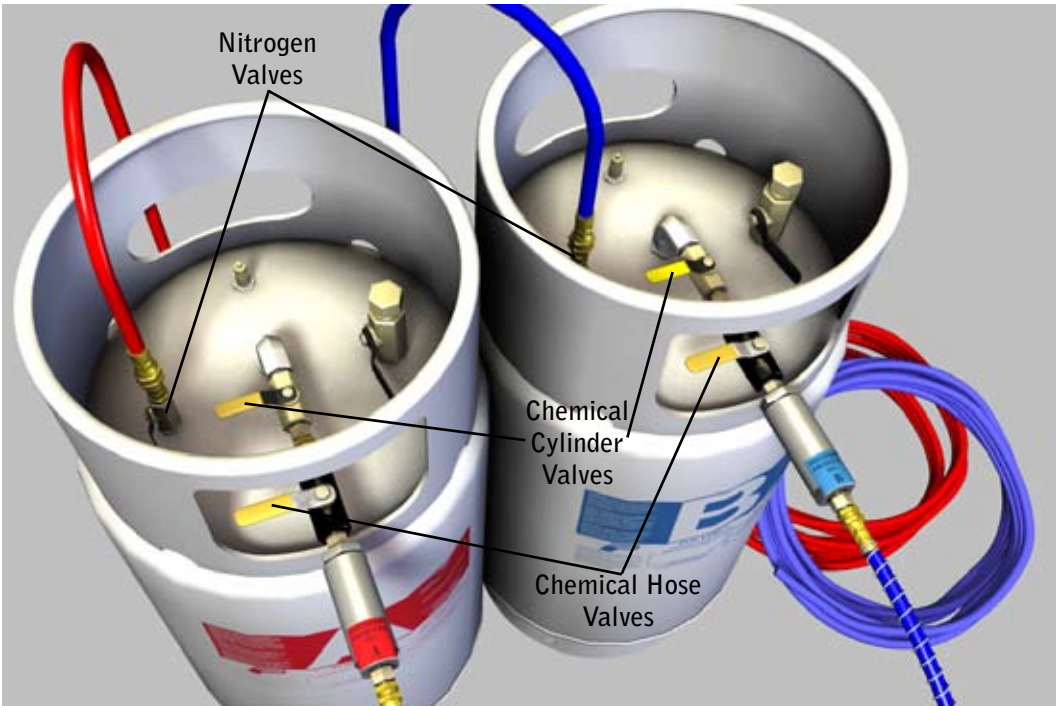
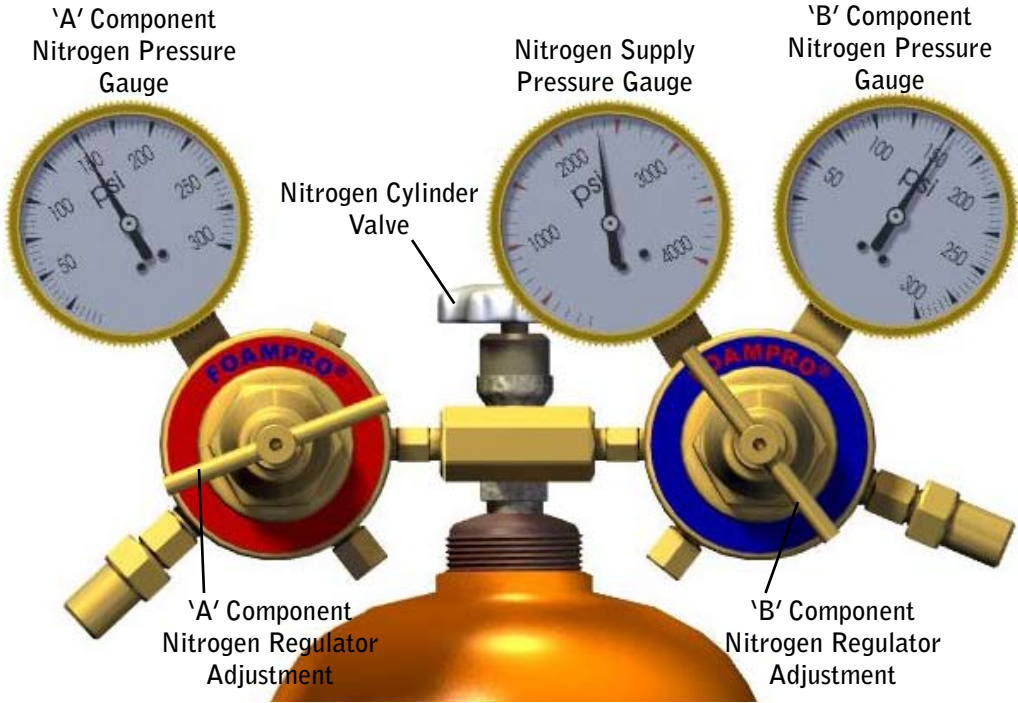

Figure 7
Figure 8
- 1 | Be sure that all valves are closed. (See figures for valve locations) This would include: The valve on top of the nitrogen cylinder. (See Figure 8) The nitrogen valve on top of both chemical cylinders (“A” Chemical and “B” Chemical). (See Figure 7) The chemical outlet valve on top of both chemical cylinders (“A” chemical and “B” chemical) (See Figure 7) The chemical valve on the filter end of both the red “A” component hose and the blue “B” component hose. (See Figure 7) Both the “A” chemical valve and the “B” chemical valve on the RTF1000EZ dispenser (See Figure 8).
- 3 | Turn the adjustment valves on both nitrogen regulators leading to the “A” chemical and the “B” chemical counterclockwise two full turns. (See Figure 8)
- 5 | Adjust the “A” component nitrogen regulator (with the red hose) to 150 psi (as a starting point) by turning clockwise (See Figure 8)
- 6 | Adjust the “B” component nitrogen regulator (with the blue hose) to 150 psi (as a starting point) by turning clockwise (See Figure 8)
- 7 | Open the nitrogen valves on both chemical cylinders (“A” component and “B” component). (See Figure 7)
- 8 | Open the chemical valves on both chemical cylinders (“A” component and “B” component). (See Figure 7) Check for leaks. Tighten any leaking fittings.
- 9 | Open the chemical valves on the filter end of the hose assembly for both the “A” component and “B” component. (See Figure 7) Check for leaks. Tighten any leaking fittings.